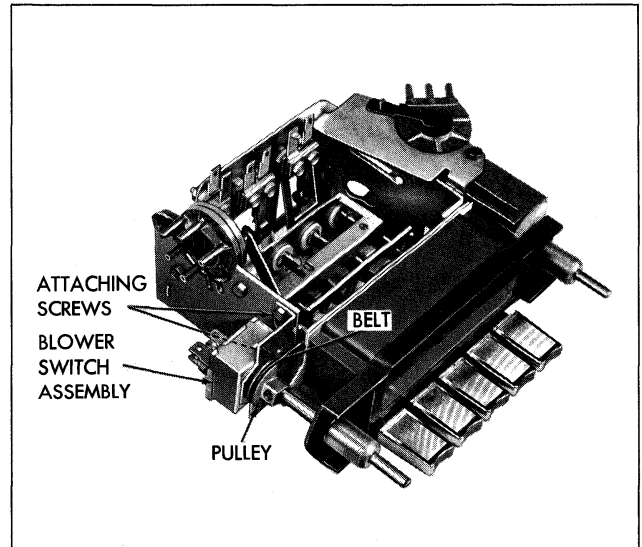

Fig. 4-9 Blower Switch
2. Remove blower speed indicator belt from blower switch pulley by unhooking belt from hook on pulley (Fig. 4-9).
1. Disconnect switch actuating arm by removing circular retaining clip (Fig. 4-9).